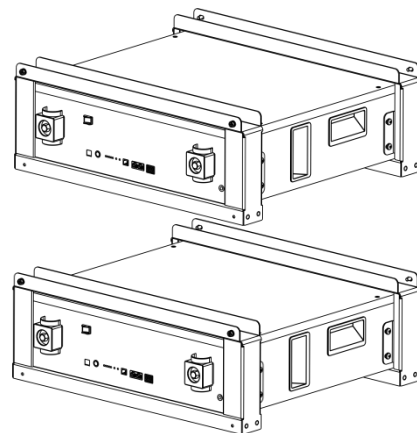

Figure3-4
3. Install another module as the same method, don't tighten the screw first, put it on top of the first battery, as shown in figure3-4.